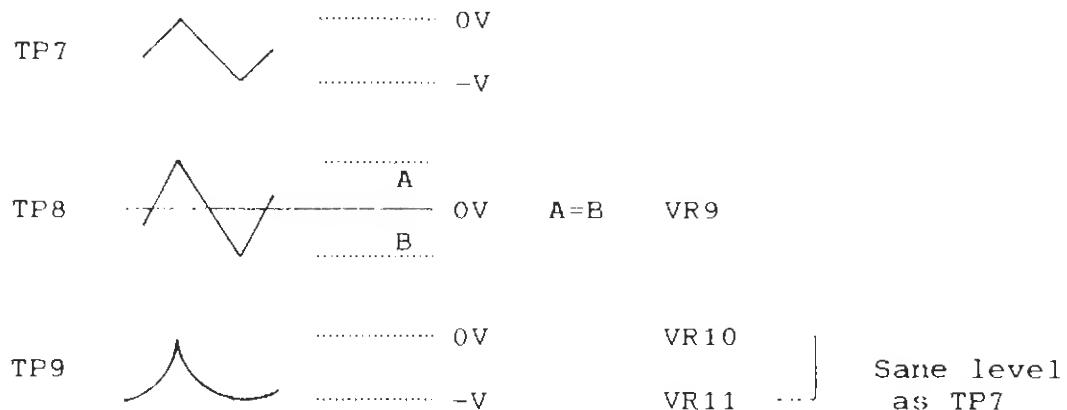

Figure 3-2
(2) Anti-log Circuit Adjustment
- Adjust following adjustments on the pc board(T-3570) to obtain a waveform as shown in Figure 3-2.